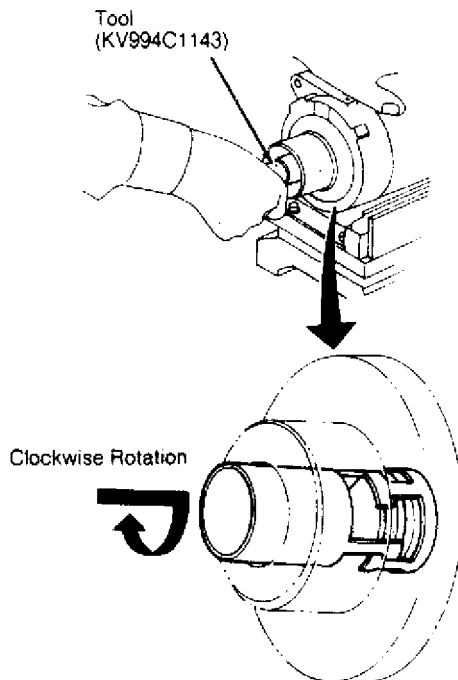

Fig. 11: Hitachi 6-Cylinder Compressor Shaft Seal Removal
cover at low pressure side of compressor. Connect Pressurizer (KV994C1552) to can of R-12 refrigerant. Wrap a rag around compressor shaft. Apply pressure of 28-71 psi (2-5 kg/cm²) at low pressure (suction) service valve of compressor. Catch shaft seal seat in rag. See Fig. 11.
4) Insert shaft seal Remover/Installer (KV994C1143) through the open end of front cover. Depress carbon seal and hook tool at case projection of shaft seal. Slowly pull out to remove shaft seal. See Fig. 11.